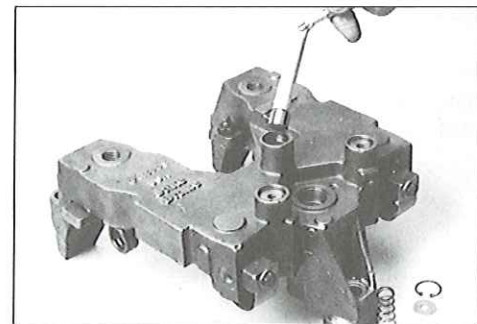

FIG. 44
3. Use a magnet to remove the piston from the accumulator bore (Fig. 44).